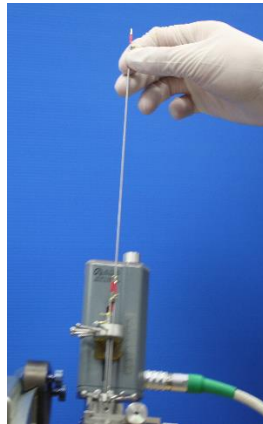

Figure 107: Removing the Electrodes
2. Loosen the retaining screws on the electrode holder, and then remove all of the electrodes (*Figure 107*).